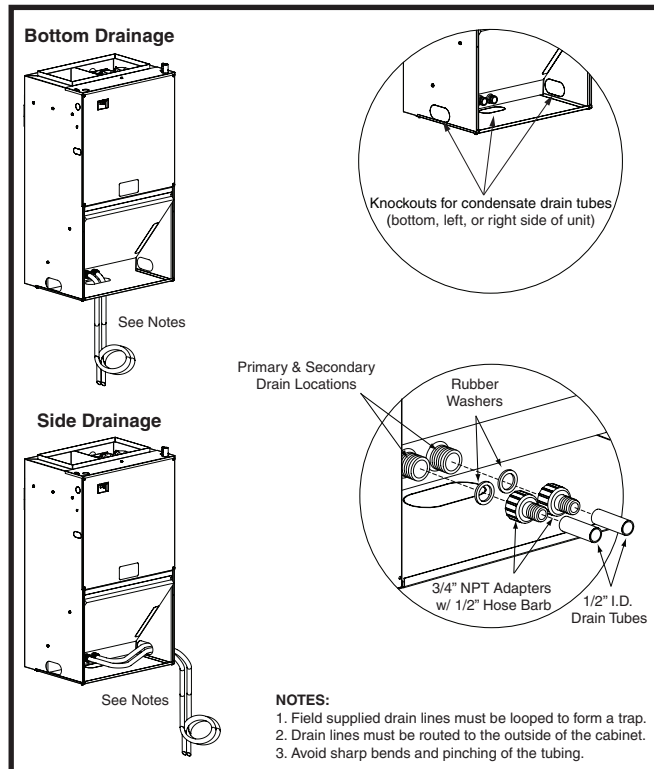

Figure 3. Condensate Drainage
The drain pan that is supplied with this air handler contains a primary and secondary drain fitting. The condensate is drained from the unit through two 3/4" male pipe fittings located on the front side of the unit as shown in Figure 3 \(page 9\).
- Drain pan **MUST** be drained with field supplied tubing and looped to form a trap. Failure to install a trap could result in condensation overflowing the drain pan, resulting in substantial water damage to surrounding area. Both drains must be trapped separately. See Figure 3.